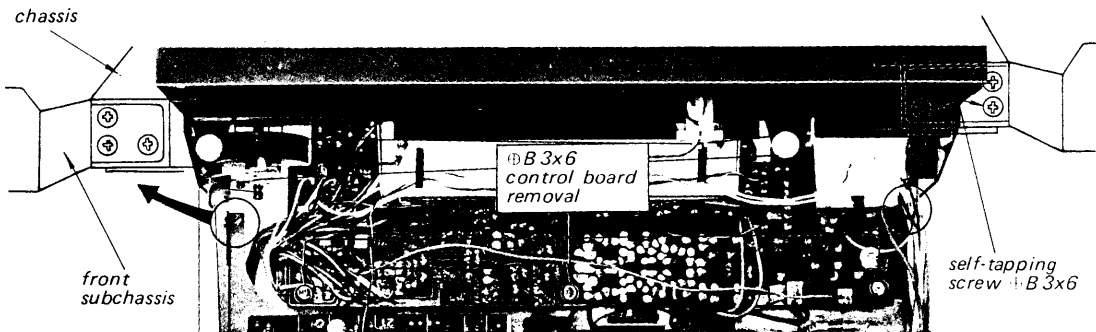

Fig. 2-15. Front subchassis removal (1)
1. Remove the three screws securing the control board to the chassis as shown in Fig. 2-15.
2. Remove the three self-tapping screws at each side of front subchassis securing it to the chassis as shown in Fig. 2-15.